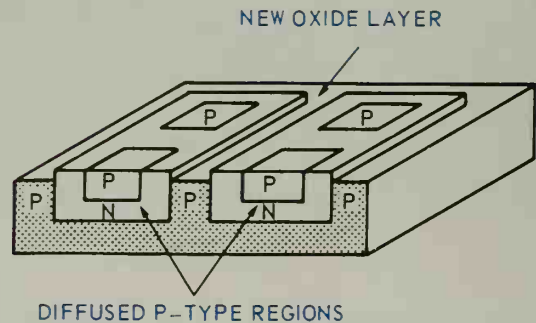

Fig. 19-12. P type regions are diffused in the N type islands.
8. Again the wafer is given an oxide coating. Refer to Fig. 19-12.